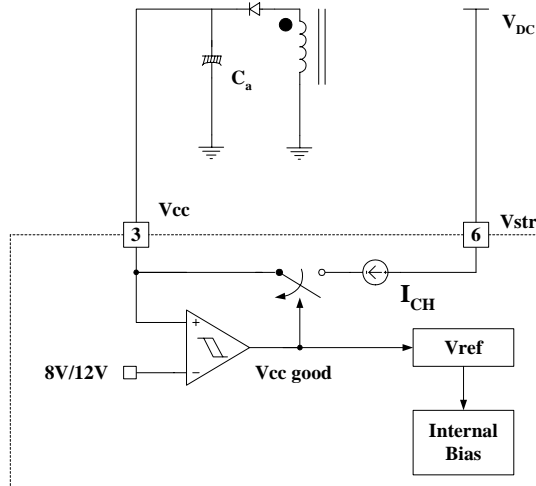

Figure 4. Startup Block
1. Startup : At startup, an internal high voltage current source supplies the internal bias and charges the external capacitor (C_a) that is connected to the V_{CC} pin as illustrated in Figure 4. When V_{CC} reaches 12V, the FPS begins switching and the internal high voltage current source is disabled. Then, the FPS continues its normal switching operation and the power is supplied from the auxiliary transformer winding unless V_{CC} goes below the stop voltage of 8V.